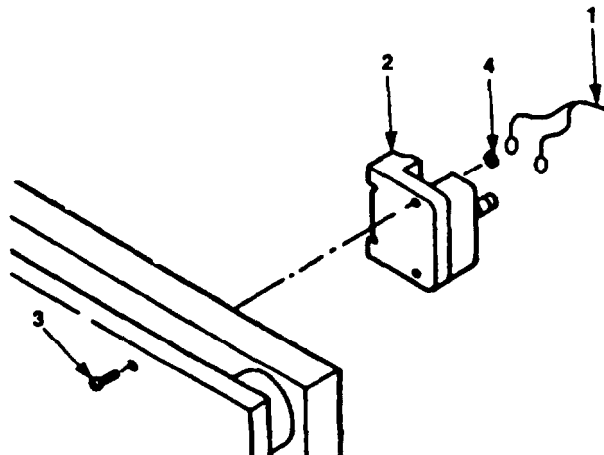

Figure 4-49. Run Relay (K2) Replacement.
**4.13.9.1 Removal.** Refer to Figure 4-49 and proceed as follows:
- a. Tag and disconnect wires (1) from relay (2).
- b. Remove two screws (3) and nuts (4) from front of control panel.
- c. Remove relay (2) from control panel.
**4.13.9.2 Installation.** Refer to Figure 4-49 and proceed as follows:
- a. Position relay (2) in place on back of control panel.
- b. Install two nuts (4) and screws (3) into relay (2) through front of control panel.
- c. Connect wires (1) to relay (2) and remove tags.